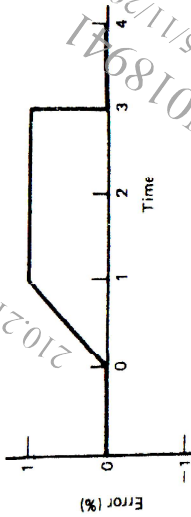

Figure.2
b) Figure.2 shows an error time graph. Sketch the PI controller with $K_p = 5$, $K_i = 1 \text{ s}^{-1}$ and initial controller output, $P_i(0) = 20\%$ [10]